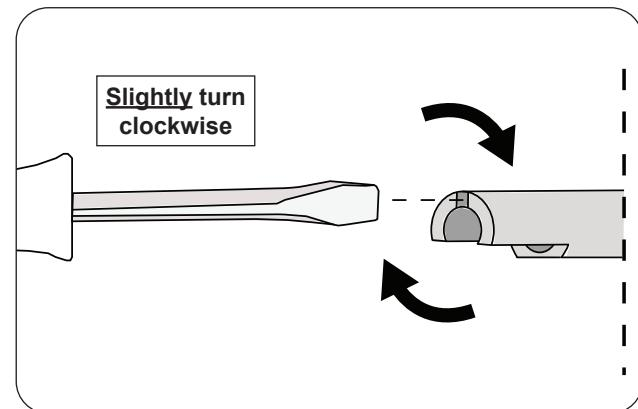

Fig. 45-2 Stem adjustment
2. Insert a flathead screwdriver into the split portion of the stem and GENTLY turn the screwdriver clockwise. Be cautious! Only a slight turn is needed as the stem is flexible. See Fig. 45-2.